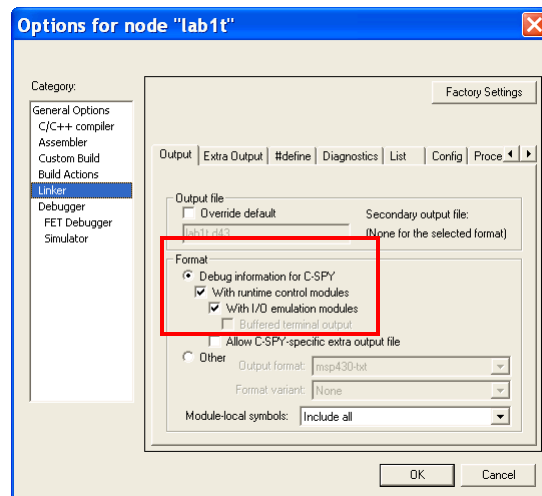

Figure 8. XLINK options dialog box.
3.1. Select the project folder icon lab1t - Debug in the Workspace window and choose *Project>Options* (Figure 8). Then select Linker in the Category list to display the XLINK option pages. For this tutorial, default factory settings are used. However, pay attention to the choice of output format and linker command file.